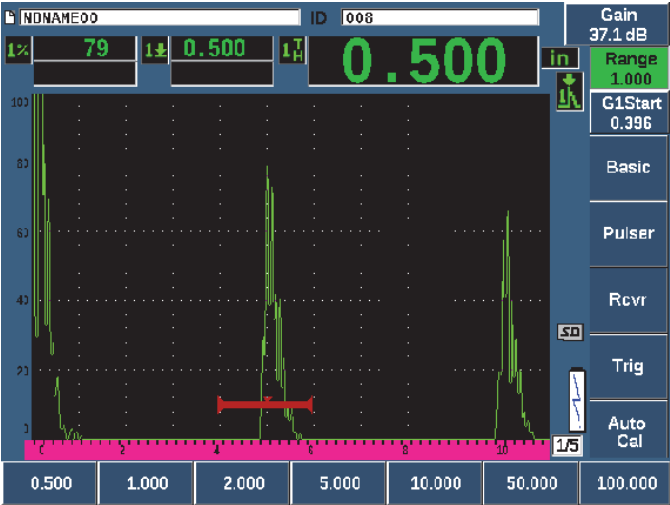

Figure 3-17 The Range value
- 15. Press RANGE, and then adjust the screen range to the desired setting (see Figure 3-17 on page 78).